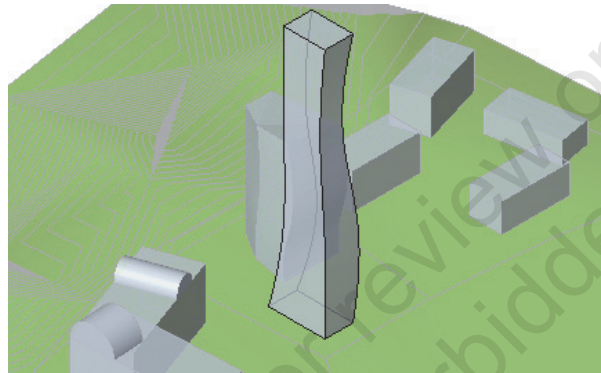

Figure 1–55
11. In the *Modify | Lines* tab>*Form* panel, click  (Create Form). The new tower displays as shown in Figure 1–55. Your design will vary according to the profiles you drew.